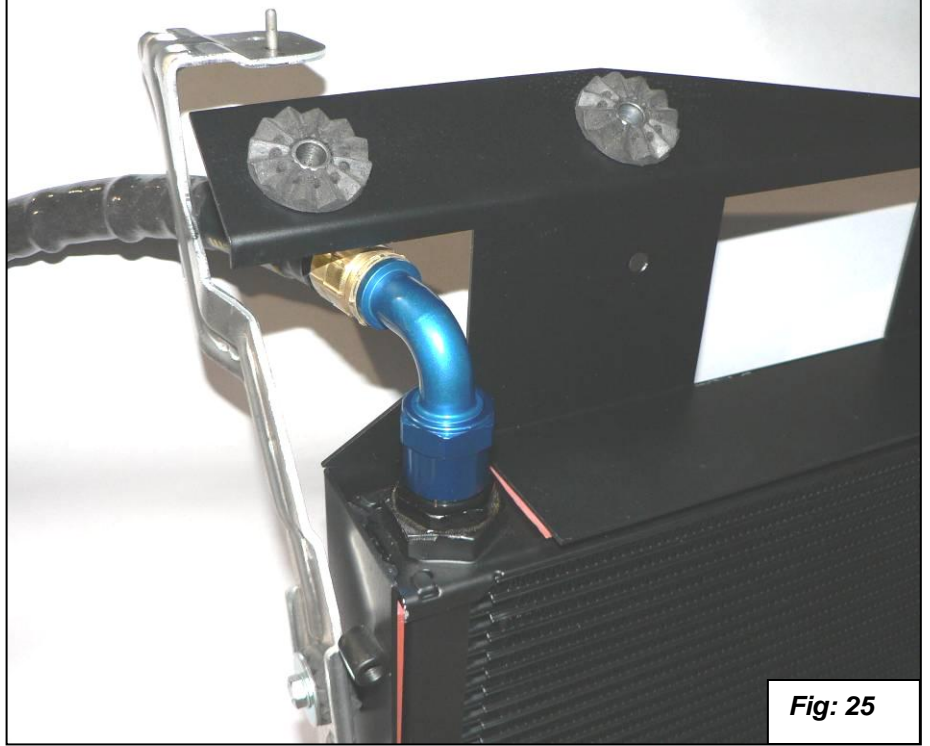

Fig: 25
26. Loosely install the oil line with the 90° fittings on each end. One end has a swivel and one end doesn't. Install the end without the swivel onto the topside of the oil cooler. Do not tighten yet. See figure 25.